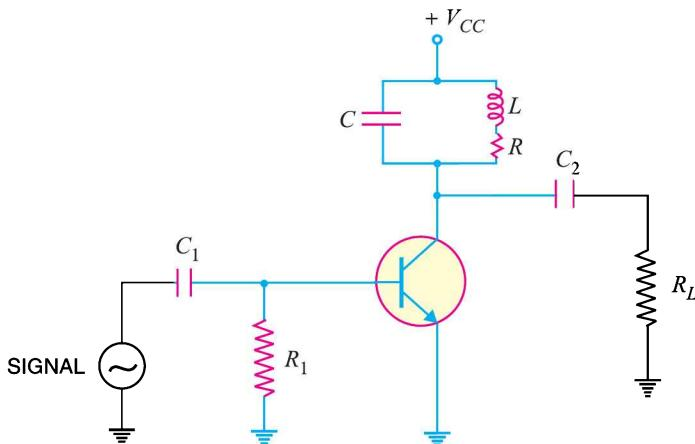

Fig. 15.20
Fig. 15.20 shows the circuit of tuned class C amplifier. We shall determine the d.c. and a.c. load of the circuit.
**Example 15.9.** In the circuit shown in Fig. 15.20,  $C = 500 \text{ pF}$  and the coil has  $L = 50.7 \mu\text{H}$  and  $R = 10\Omega$  and  $R_L = 1 \text{ M}\Omega$ . Find (i) the resonant frequency (ii) d.c. load and a.c. load.